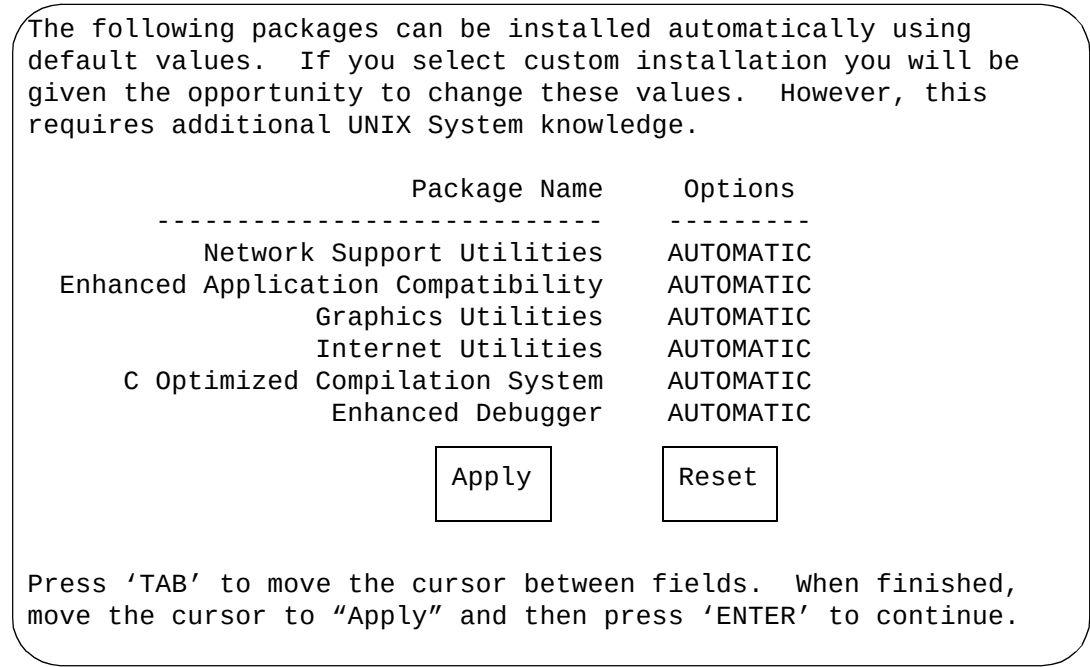

Figure 9-26. Automatic Installation Screen
- The system displays the Automatic Installation screen (Figure 9-26).
23. Select the packages as shown in Figure 9-26.